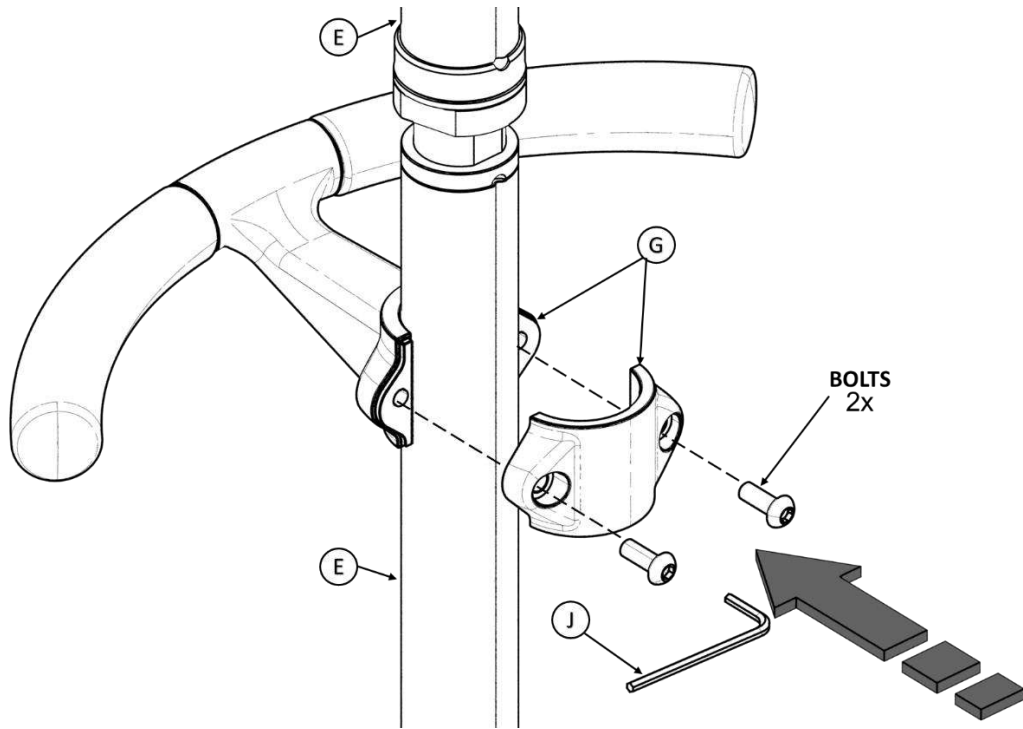

FIGURE 7
7. Unscrew **BOLTS** in **G** with **J** and position to desired location on **E**. Retighten **BOLTS** as shown in *FIGURE 7*.